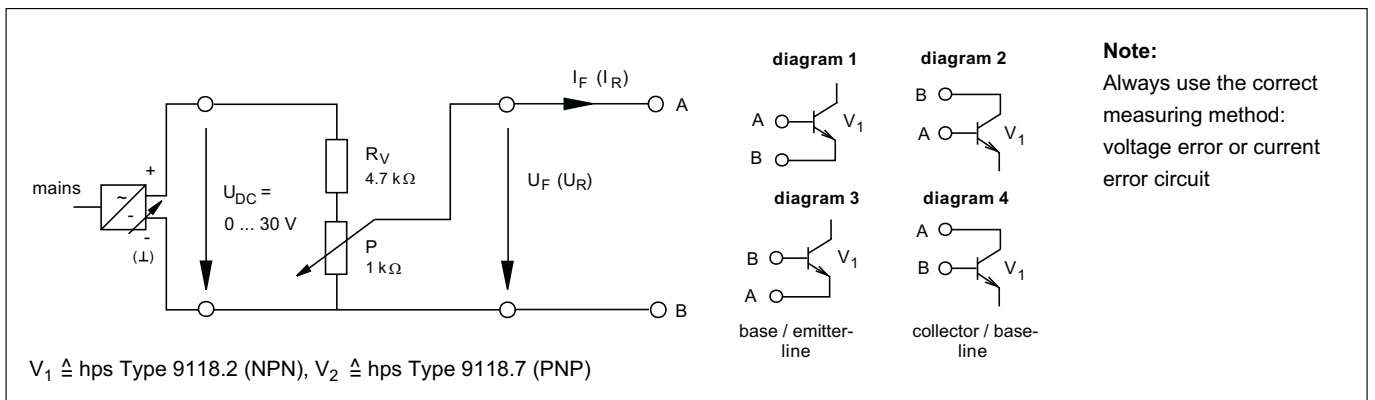

Fig. 4.1.2.1
- Set up the circuit as shown in Fig. 4.1.2.1 (diagram 1). Using potentiometer P in conjunction with the multimeter, set the voltages U_F consecutively according to Table 4.1.2.1. Measure each corresponding current I_F and enter the values in Table 4.1.2.1. On the diagram (Fig. 4.1.2.2), plot a graph showing the dependence of the current I_F on the voltage U_F .
- Set up the circuit as shown in Fig. 4.1.2.1 (diagram 2). Set the voltages U_F consecutively according to Table 4.1.2.3. Measure each corresponding current I_F and enter the values in Table 4.1.2.3. On the diagram (Fig. 4.1.2.3), plot a graph showing the dependence of the current I_F on the voltage U_F .
- For the next set of measurements, remove potentiometer P from the circuit (Fig. 4.1.2.1) and set the voltage directly on the power supply unit. Resistor R_V should remain connected for safety reasons.
- Set up the circuit as shown in Fig. 4.1.2.1 (diagram 3). Set the voltages U_R consecutively according to Table 4.1.2.2. Measure each corresponding current I_R and enter the values in Table 4.1.2.2. On the diagram (Fig. 4.1.2.2), plot a graph showing the dependence of the current I_R on the voltage U_R .